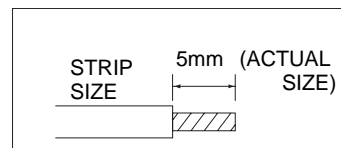

Fig. 26
- (1) Cut the wire end with a cutting pliers, then strip the insulation to expose the wire about 5 mm. See the label (Fig. 26) near the terminal plate.
- (2) Using a screwdriver, loosen the terminal screw on the terminal plate.
- (3) Insert the wire and tighten the terminal screw completely using a screwdriver.